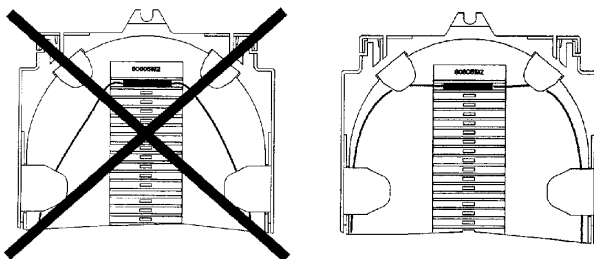

FIGURE 33 - BEND RADIUS - IMPORTANT
13.05 Splice the fibers according to your accepted company practices. (Figure 33)